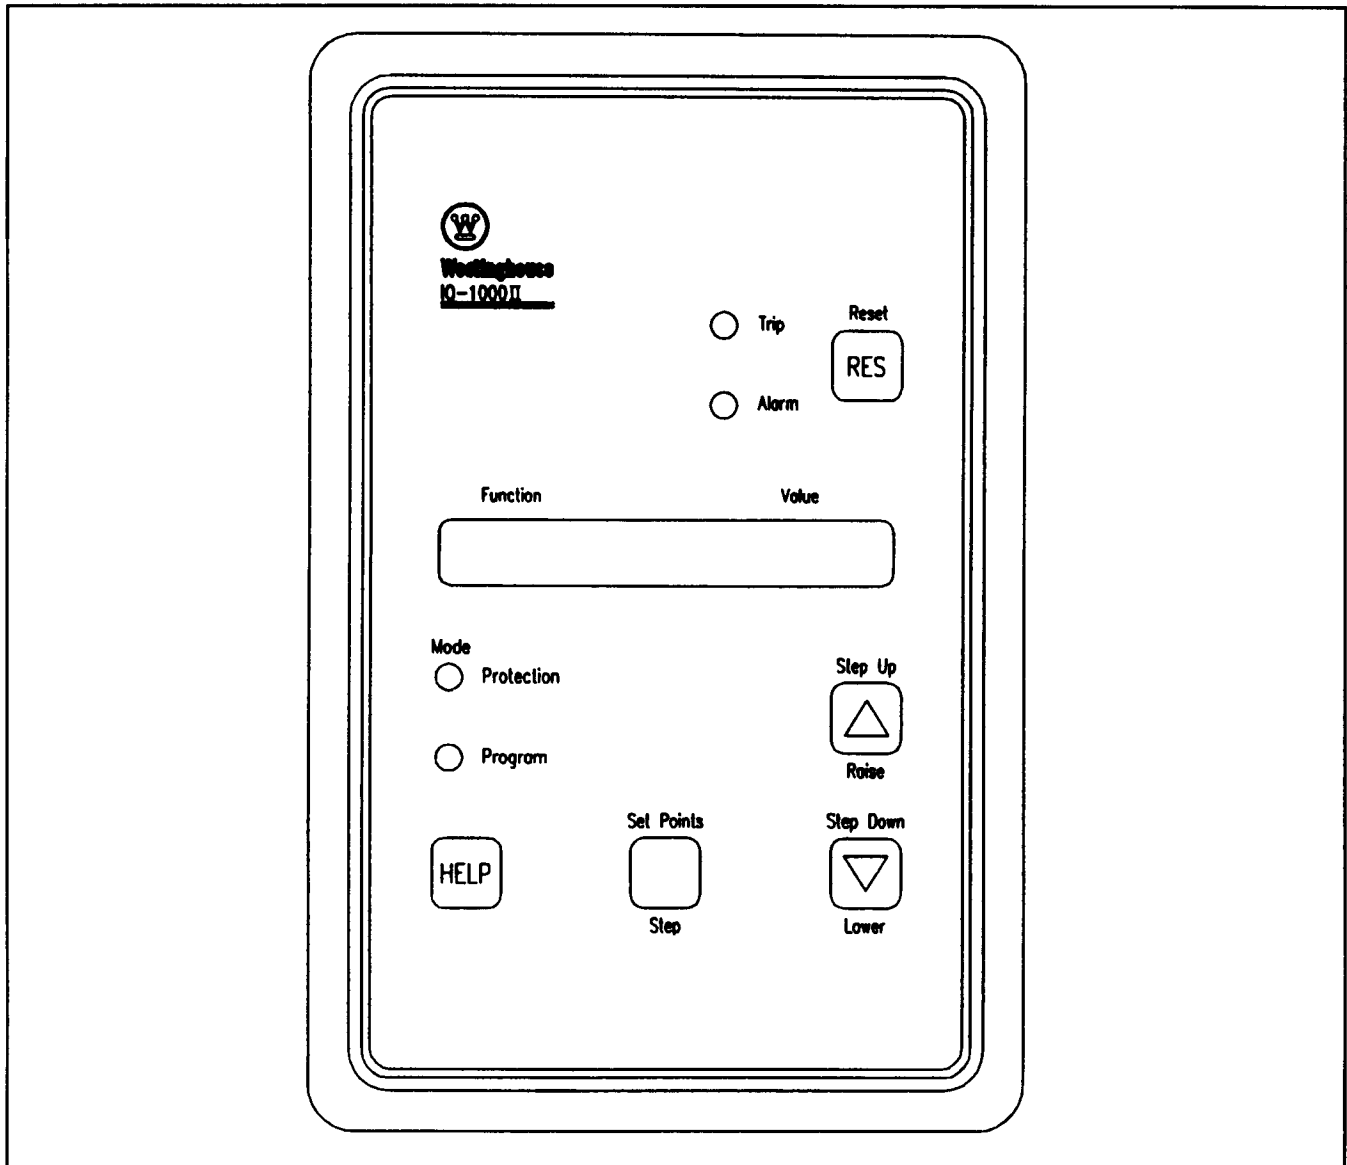

Figure 4.1 — IQ-1000 II Operator Panel
4.1 General Description — The IQ-1000 II's faceplate is a plastic and polyester material designed to withstand a variety of harsh industrial environments. All indicators, displays and pushbuttons are located on the faceplate (see Figure 4.1). White colored lettering relates to the Protection mode and blue colored lettering relates to the Program mode. A keyswitch, which switches the IQ-1000 II between the Program and